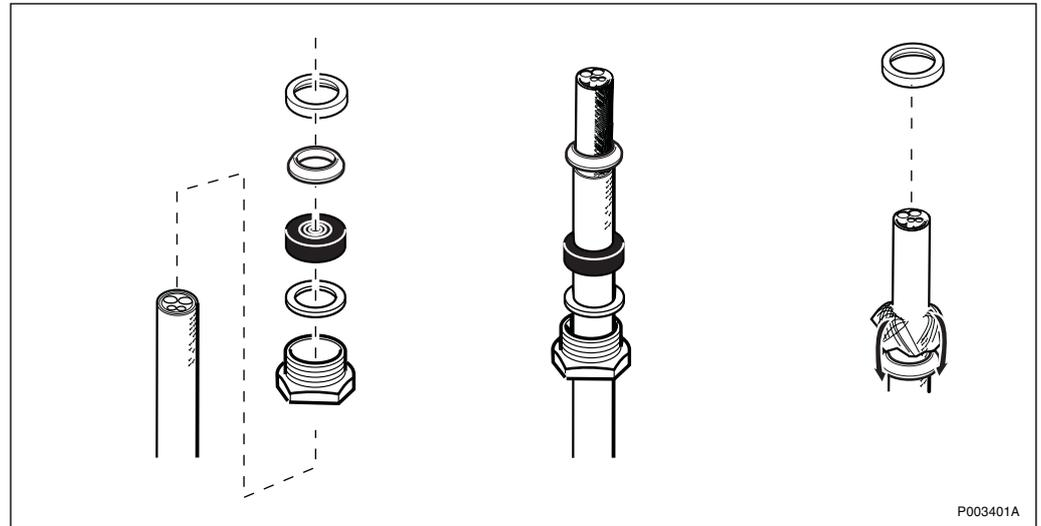

Figure 273 Mounting the cable inlet
The DC/Data cable has to be earthed by the cable inlet *see Figure 273 on page 227*.
3. Dismantle the cable and mount the cable inlet, *see Figure 273 on page 227.*
3. Dismantle the cable and mount the cable inlet, see *Figure 273* on page 227.